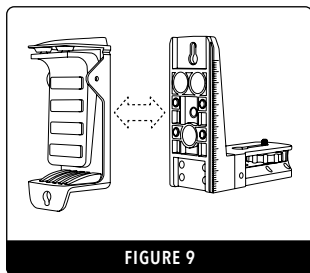

FIGURE 9
- Attach the two mount pieces together via the magnetic backing (Fig.9).